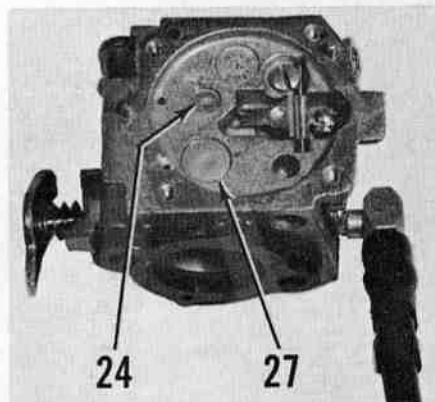

**Fig. HL75 — Exploded view of Tillotson series HL carburetor used on model XL-88 saw. Refer also to Figs. HL76 through HL80.**
**CARBURETOR.** A Tillotson series HS-46A diaphragm type carburetor with integral fuel pump is used. Refer to Fig. HL75 for exploded view.
When servicing carburetor, refer to Figs. HL77 through HL79 as well as to exploded view in Fig. HL75. Slide screen (9—Fig. HL77) from bore to clean or renew. If pass-